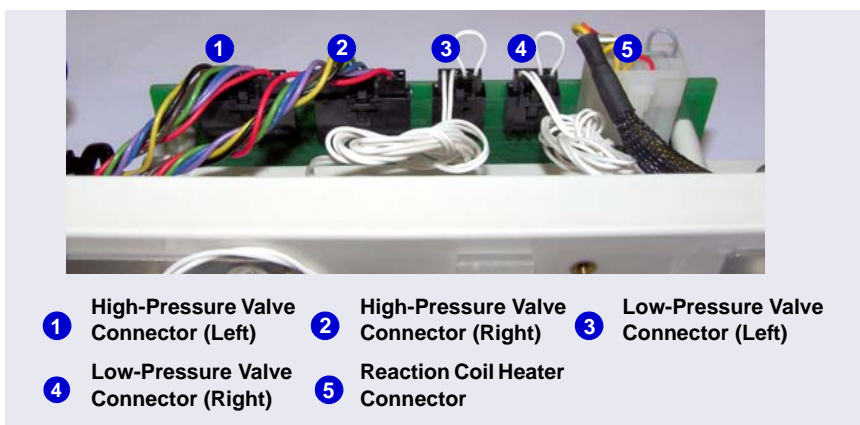

Figure B-24. Connections to the AM Prep Board
9. Two high-pressure valve cables are connected to the AM prep board (see Figure B-24). Uncoil the appropriate valve cable and plug it into the connector on the valve.
2. While holding the valve mounting plate firmly against the AM, tighten the captive thumbscrew (see Figure B-24).
4. Plug the valve connector into the appropriate connector on the AM prep board (see Figure B-24).
3. Route the heater cable through the cutout to the right of the heater. Plug the cable into the **HEATER** connector on the AM prep board (see Figure B-24).